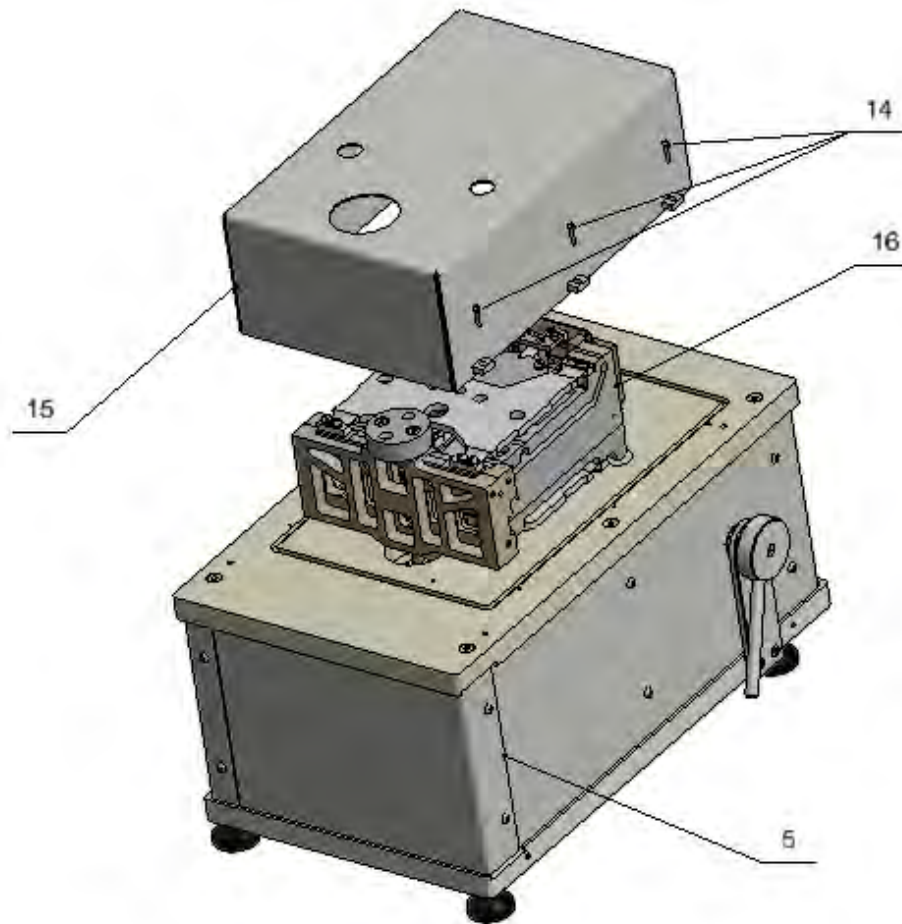

Fig.7
11. Fix lid assembly for bottom shield (5). (Fig.7)
12. Undo six M3 screws (14) and remove lid assembly for top shield (15).(Fig.7)